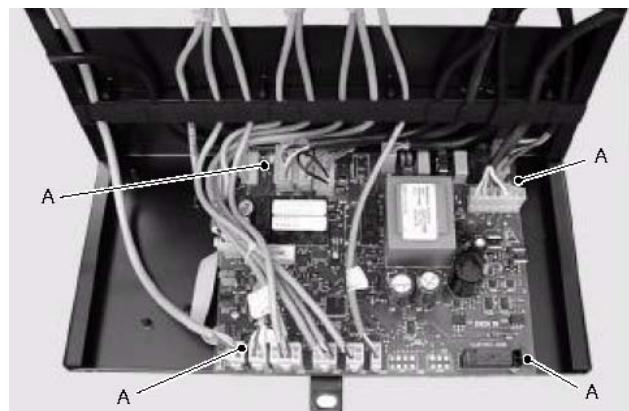

Fig. 29
- 4 Unscrew the screws A (Fig. 29) and remove the electronic control p.c.b.